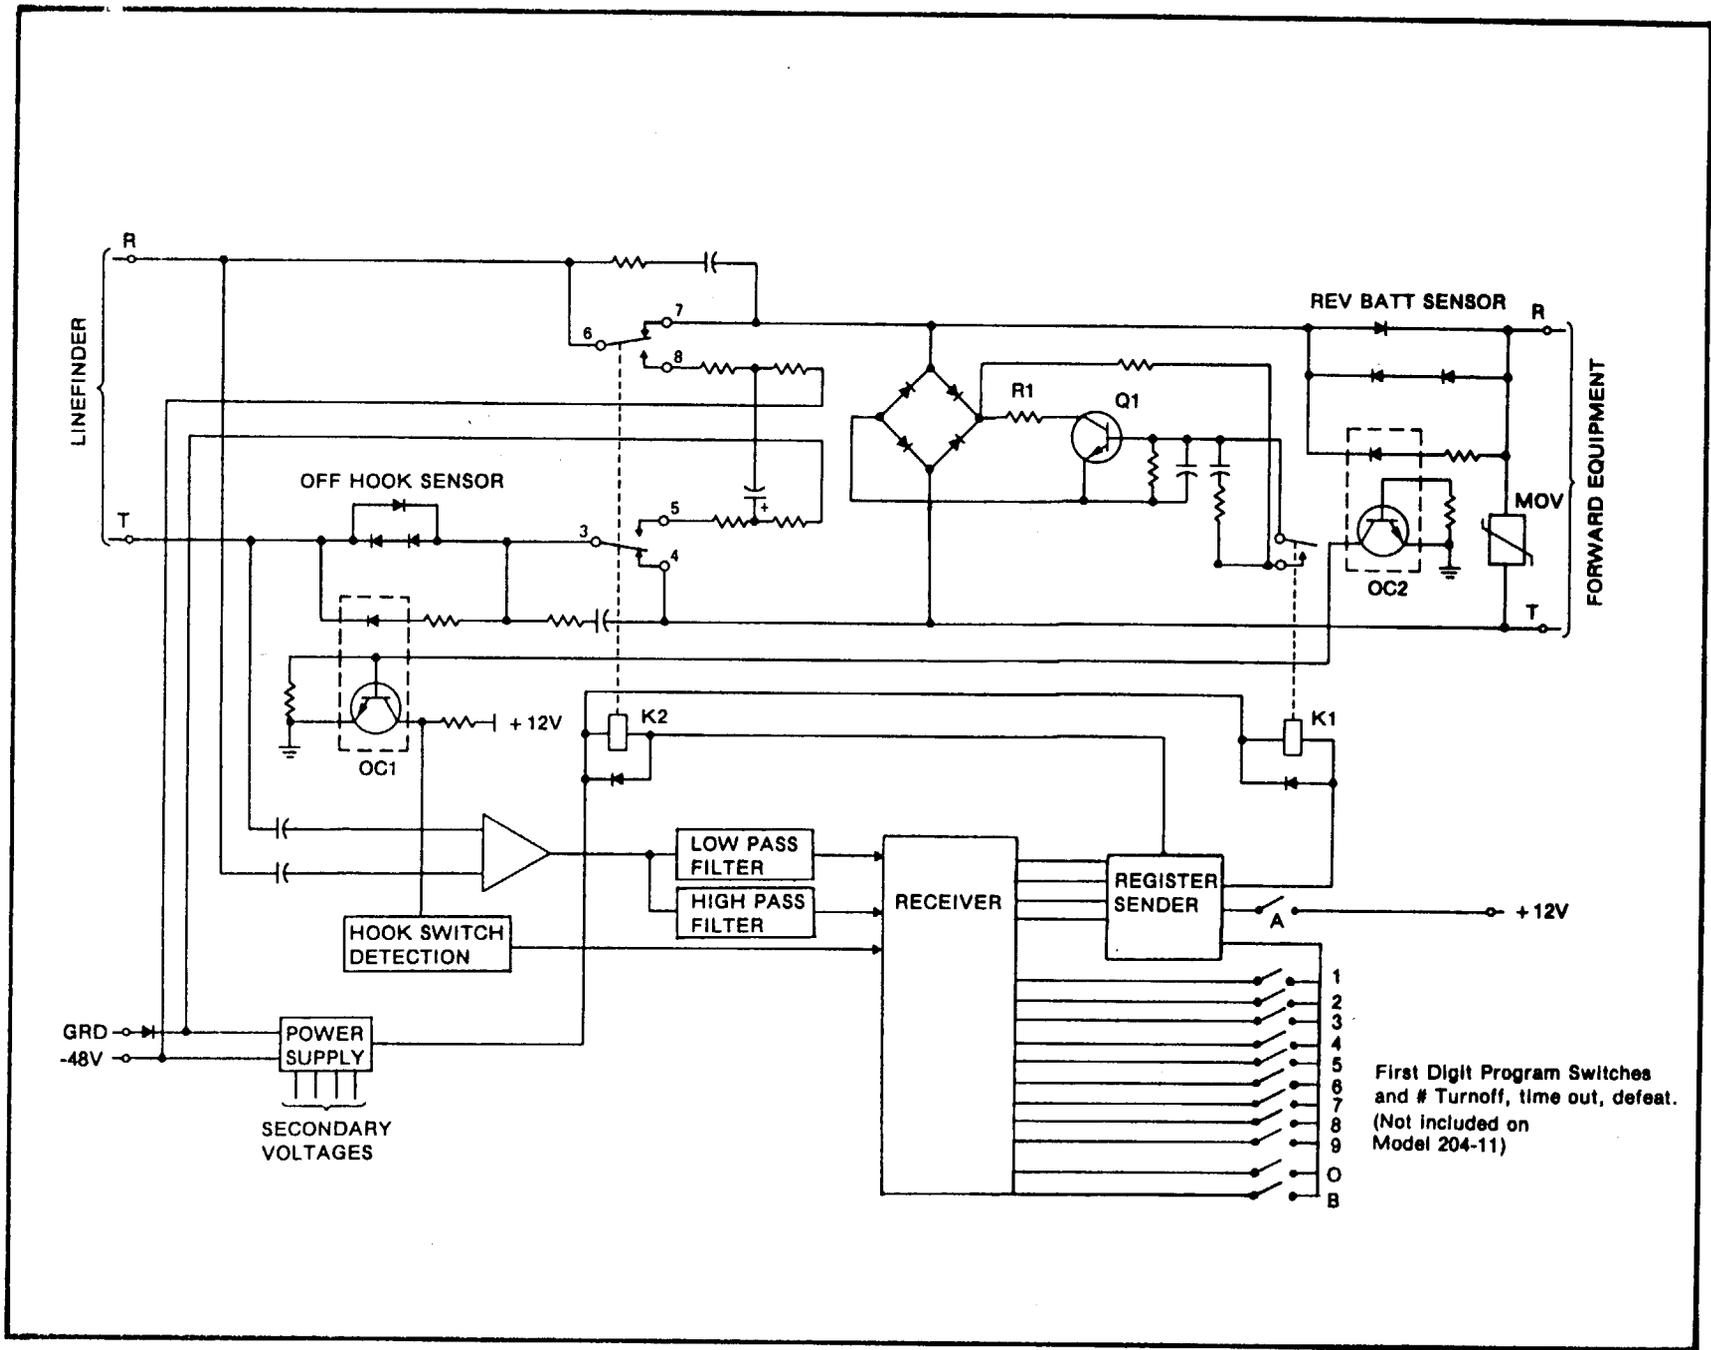

Figure 4. Functional Schematic
6.04 The input of the Converter is normally from the linefinder via the connecting cable harness assembly. The output is directed toward the forward equipment normally the first selector. A schematic circuit is included as Figure 4.
7.08 The Receiver, in addition to providing digital information to the register, also indicates to the K-1 and K-2 relay (Figure 4) when a valid digit has been received and provides an input to the "first digit recognition" program (paragraph 12.03).
8.03 The register upon receipt of the digital information from the receiver, controls the operation of the K-1 relay. The K-1 relay, by returning to normal and reoperating, drives transistor Q-1 (Figure 4) which opens and closes the loop toward the forward equipment or first selector. The logic which controls K-1 results in dial pulses and interdigital timing which is extremely accurate and stable.
8.05 Upon receipt of a signal from the receiver, the K-1 operates first and places a short across the tip and ring leads by placing a ground at the base of transistor Q-1. The tip and ring short can be traced (Figure 4) from the tip side of the line through the diode bridge and transistor Q-1, through resistor R1, to the ring side of the line.
9.04 This detection circuit consists of diodes inserted in series with the tip side of the line and an optical coupler, OC-1 as shown on the functional schematic (Figure 4).